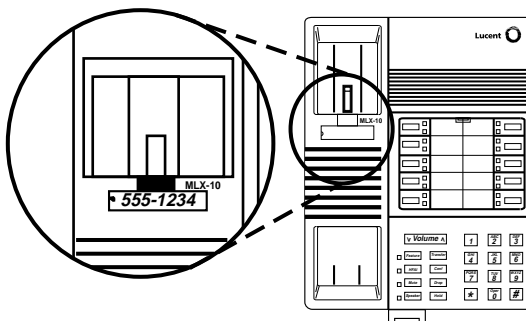

Figure 3-33. Labeling the Extension
- b. Type or write the assigned extension number on the card. See Figure 3-33.